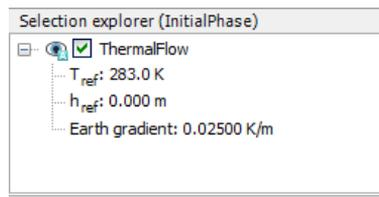

Figure 15.6 Thermal flow in the *Selection explorer*
- In the *Staged construction* activate the *ThermalFlow* under the *Model conditions* subtree and set the value for T_{ref} to 283 K. The default values for h_{ref} and *Earth gradient* are valid (Figure 15.6).